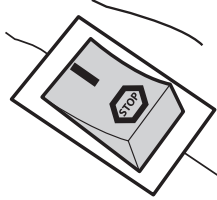

Fig. 13a
2. Set the ignition switch (A19) to its on position "I". (See Fig. 13a)